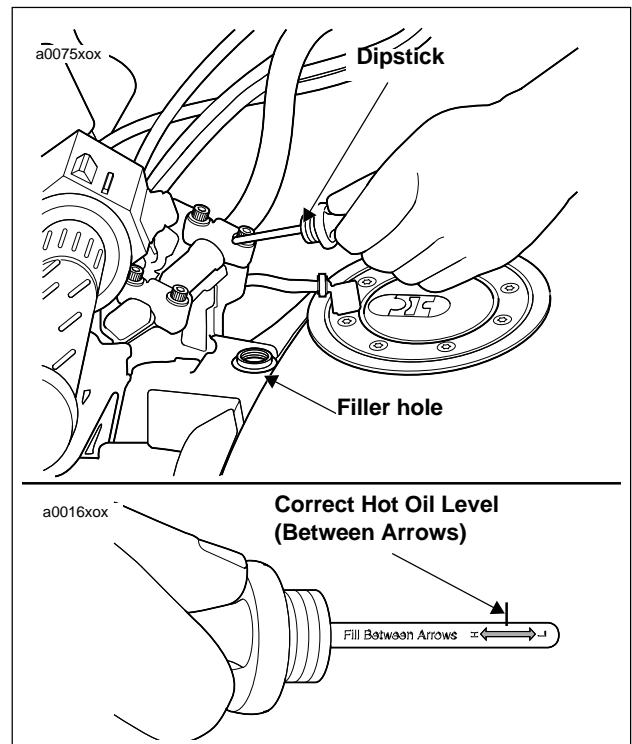

Figure 1-2. Dipstick Location/Engine Oil Level
2. See Figure 1-2. Unscrew dipstick from frame filler hole.
4. See Figure 1-2. Remove dipstick and note oil level.
12. See Figure 1-2. See Table 1-3. Remove dipstick and refill with approximately 1.5 qts (1,419.5 ml) recommended oil at filler hole.